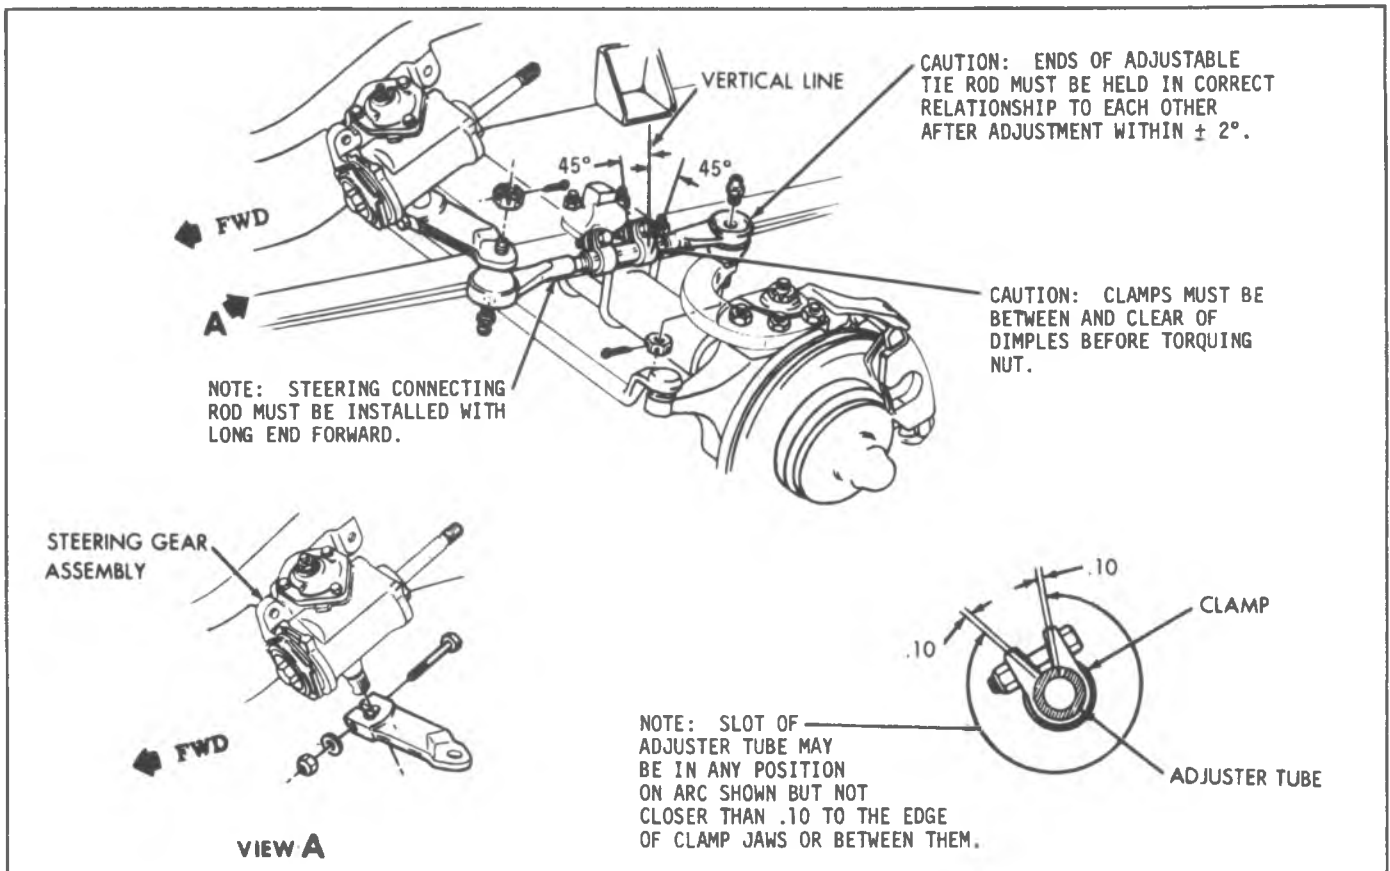

Fig. 3B1-11--Adjustable Connecting Rod Assembly-K Series
2. Install ball studs in steering arm and pitman arm. (Be sure to install the long end of the connecting rod assembly to the pitman arm, as shown in Fig. 3B1-5).
4. Install cotter pins and lubricate ball studs. For proper alignment and orientation of connecting rod clamps see Figure 3B1-11.